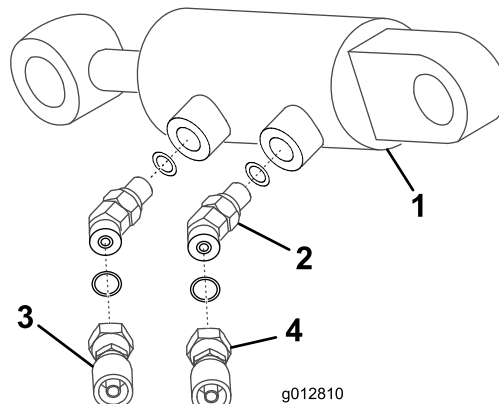
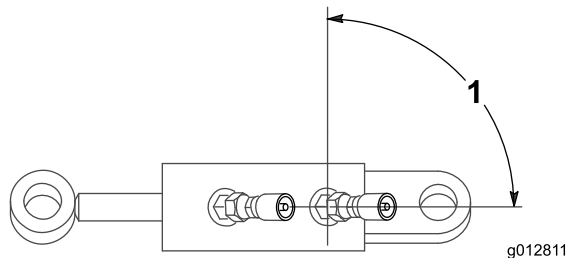

Figure 2
Figure 3
3. Thread a 45 degree hydraulic fitting into each port of the hydraulic cylinder (Figure 2). Make sure the O-rings are in place when installing the fittings. Orientate the fittings as shown in Figure 3.
4. Install the straight fitting end of each hydraulic hose to the fittings on the hydraulic cylinder (Figure 2). The shorter hose (16.5 inches long) is connected to the fitting closest to the rod end.